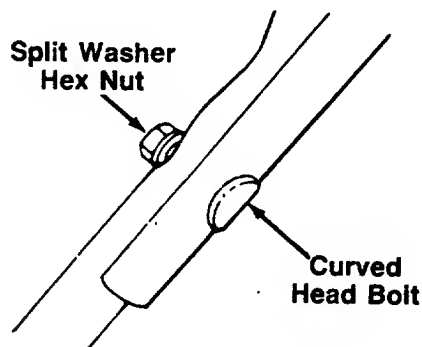

FIGURE 2.
2. Secure the upper and lower handle using the curved head bolts, split washers and hex nuts as shown in figure 2.